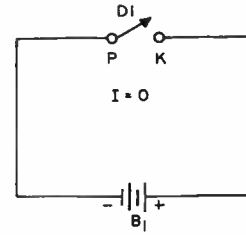

FIGURE 2
- (a) one direction only. -- Electrons cannot flow in the direction urged by battery B_1 in Figure 2 because the diode is then an open circuit.